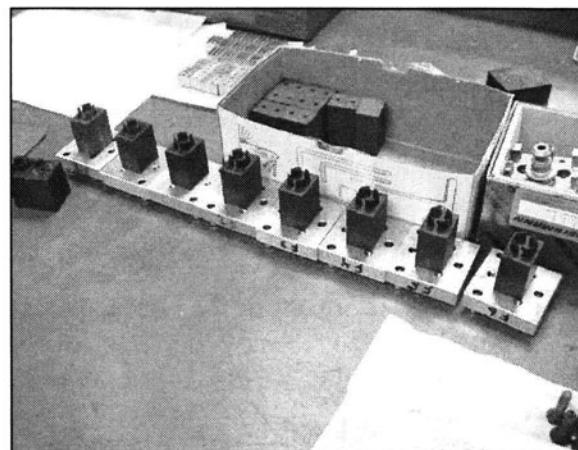

FIGURE 13-3 It is better to err on the side of making too many electrodes than not enough.
7. *Err on the side of making too many electrodes. (See Fig. 13-3)*